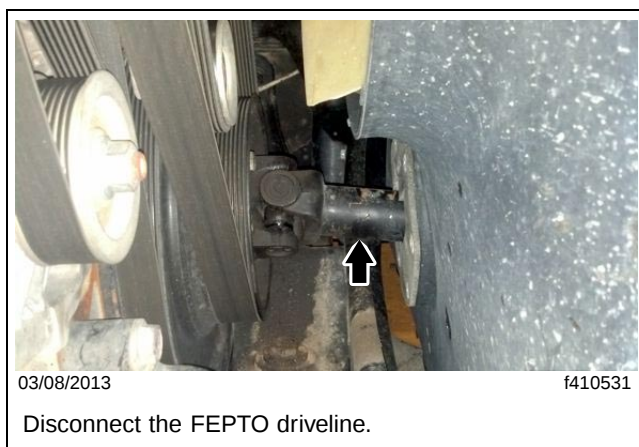

Fig. 1, FEPTO Driveline
- 9.1 Unbolt the FEPTO driveline from the engine. See **Fig. 1**.